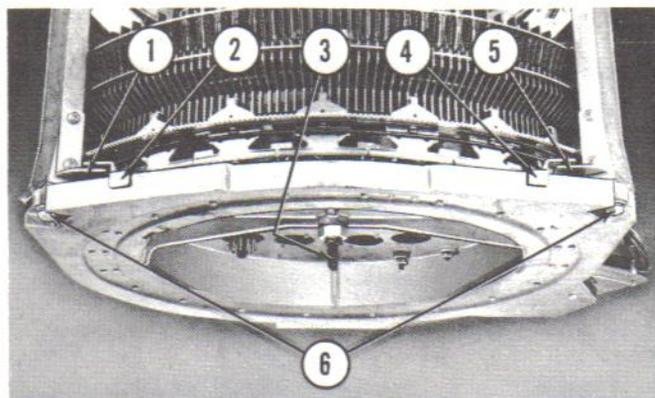
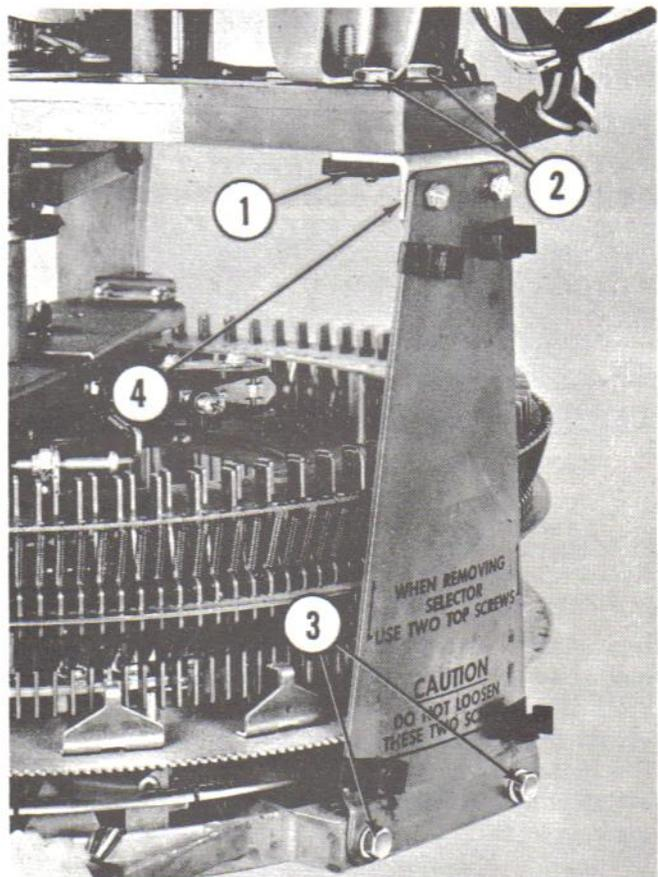
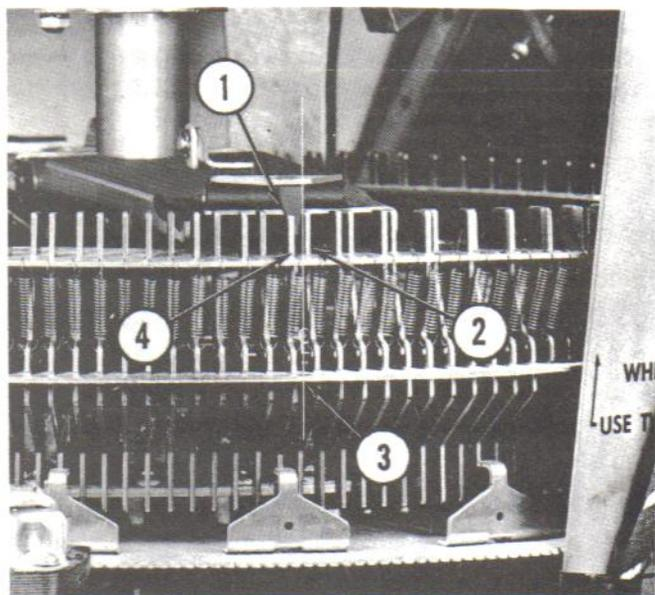

Fig. 27. ELECTRIC SELECTOR CENTERING
Fig. 28. ELECTRIC SELECTOR ADJUSTMENT - 2500
Fig. 29. ELECTRIC SELECTOR ADJUSTMENT - 2500
tion by two mounting screws (Fig. 27, Item 6) and by the mounting plate and silk screen assembly (Fig. 22, Item 7) at the rear of the changer. Observe the caution label on the mounting plate and only remove the upper two screws (Fig. 28, Item 2), holding the L bracket (Item 4) to the casting. It should be noted that there has been a change in the mounting plate and silk screen assembly after April 16, 1960. Therefore, when sending replacement electric selector assemblies to operators it will be necessary to have the correct mounting plate for the particular phonograph needing the replacement. Discussion of the alignment procedure will follow after the centering procedure.
(2) The front edge of the electric selector casting is provided with two guide brackets (Fig. 27, Items 2 & 4) which fit over two guide plates (Items 1 & 5) on the front hangers. The engagement of these brackets and hangers serves to support the front of the electric selector assembly, while the rear mounting plate and L bracket is loosely fastened by its two screws. The centering shaft, number 69247 (Fig. 27,
(3) When the electric selector assembly must be exchanged on a 200 selection phonograph involving different rear support plates the following procedure should be used:
(a) Mount the correct rear support plate to the electric selector assembly with the two bottom screws as shown in Figure 28, Item 3, and leave the screws loose enough for the plate to slide on its elongated holes. Follow the mounting procedure outlined under paragraph (2) above up to the point where the assembly is centered with the main shaft but the front and lower rear mounting screws are still loose. Then turn the record carrier by hand until H-1 record compartment is indexed at the left hand record lift arm. Going to the rear of the phonograph, the tip and mounting bracket on the selector crank arm which engages the inner selector pins will be visible to the left of the rear support plate as shown in Figure 29, Item 1. While in this position the elec-
tric selector assembly may be turned in either direction on its mounting to locate H-1 selector pin to the right of the tip (Item 2) on the selector arm. The tip should be approximately on the center line between H-1 inner pin and H-2 outer pin as shown in Item 3. Maintain this alignment and tighten the lower mounting screws (Fig. 28, Item 3) in the rear support plate. Continue by following the directions under paragraph (2) for centering the electric selector and tighten all mounting screws, checking to make sure that the centering shaft will slide freely in and out of the main shaft. Following the installation of the replacement electric selector and rear support plate it will be necessary to readjust the selector crank arm actuating screw, the stop screw, the kick-off screw and possibly the selector crank clearance and cancel adjustment. These adjustments will be found in the Index to Adjustments by the same names and should be set in the sequence given.